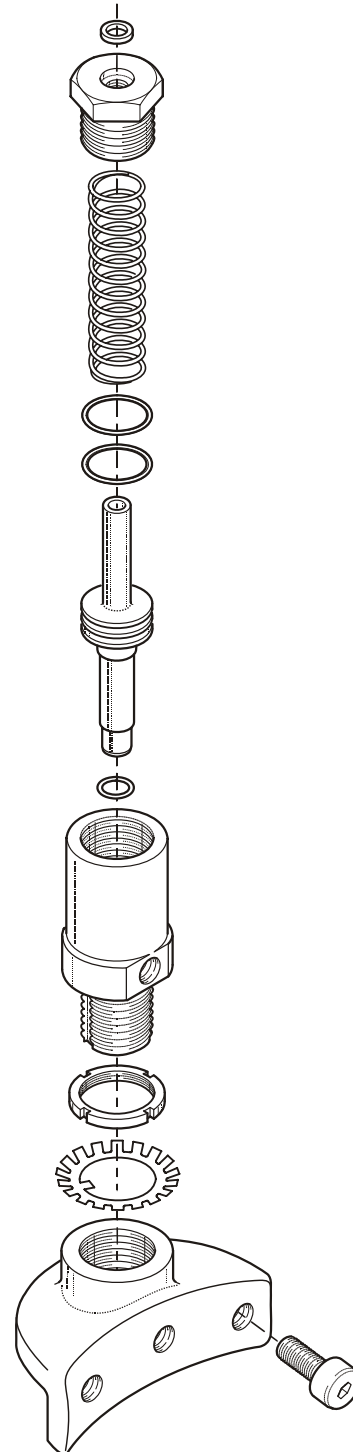

Figure 40 Pneumatic Disengagement Cylinder
- a. Secure the cylinder in a vice and disassemble in accordance with Figure 40.